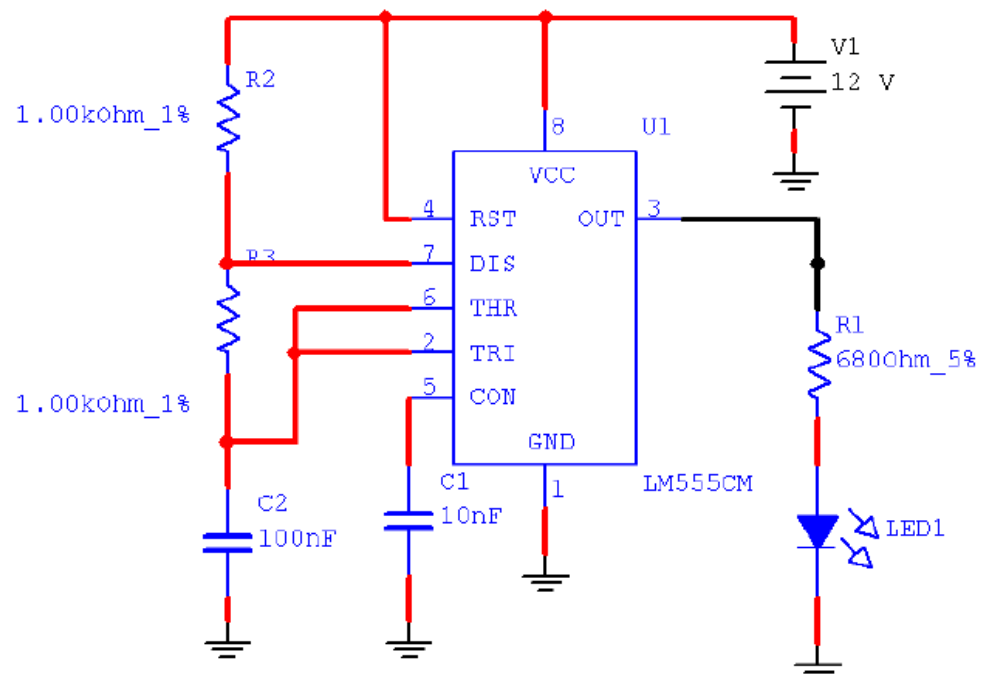

Fig.6 Astable 555 Circuit
- Connect the circuit shown in Fig.6.